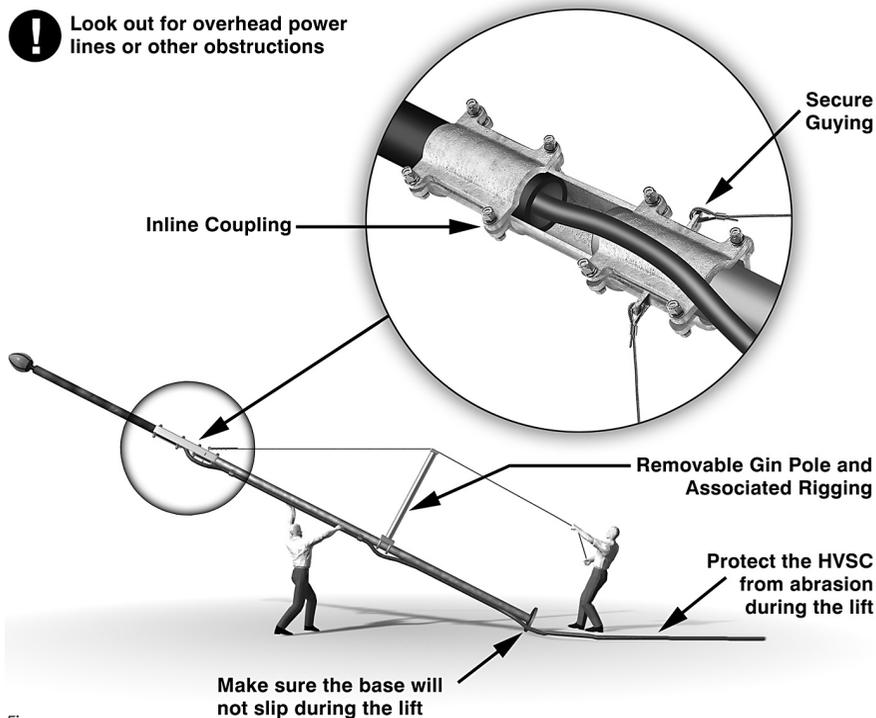

Figure 42.
- If required, fit the HVSC downconductor through the centre of the Inline Coupling and through the FRP mast. Refer to Figure 42 on page 41.